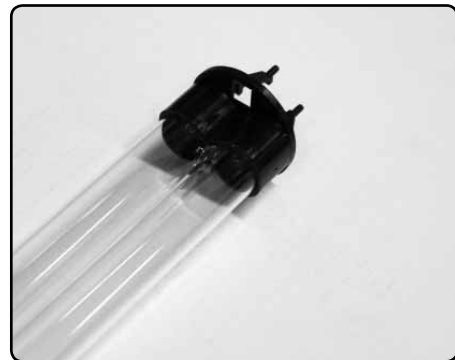

Fig. 1
5. Ensure the spacer is on the end of the lamp and carefully reinsert into the unit. (*Fig. 1*) Note: The EPUV75 uses a different style bulb that does not require this spacer. Be sure to go straight and avoid angles as this can damage the quartz sleeve. Do not force lamp into unit. Readjust the black spacer to fit onto lamp if necessary.